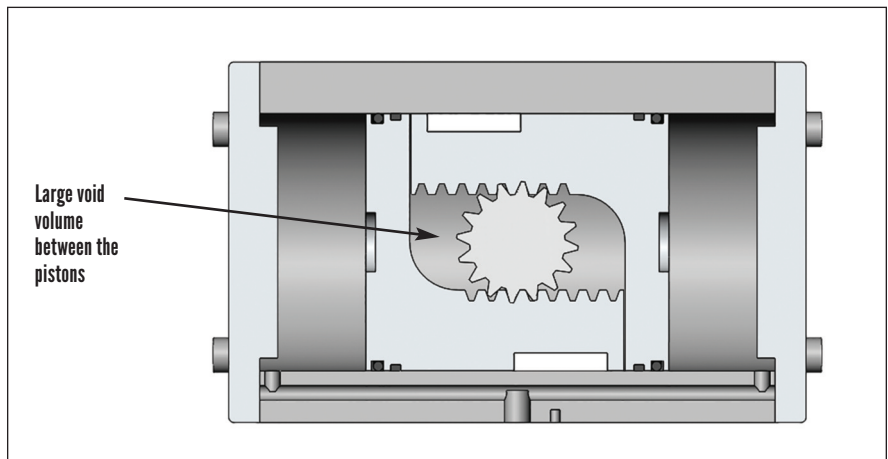

Figure 2. Rack & pinion actuator with pistons outward when the controlled valve is closed (normal arrangement)
Actuator void volumes vary by type, design and direction of travel. Consider the example actuator shown in Figures 2 and 3. Void volume is considerably greater if pressure is applied between the pistons to cause valve opening than if that pressure is applied to the
When pumps operate outside of BEP, and especially when they are throttled, inefficiency and repairs occur at higher rates. These costs can be significant, even exceeding the original cost of the equipment (Figure 2).
□ Figure 2. Life-cycle costs for a typical API pump system